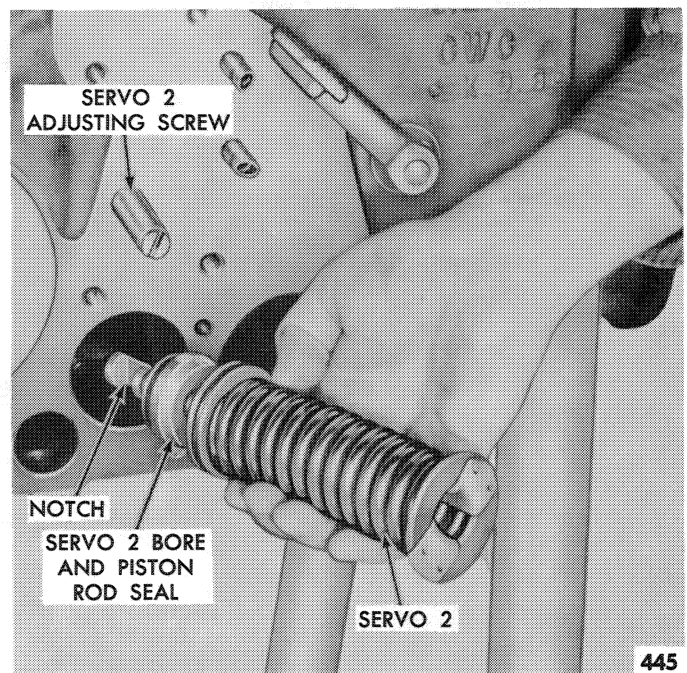

Figure 127—Installing Servo 2
1. Install the servo 2 actuating lever and pin assembly and install servo 2 assembly with the bore and piston rod seal in place and the notch forward, as shown in Figure 127. Secure the lever pin in the retainer with the flat washer and nut, and install the lever pin retainer mounting bolt in the case.